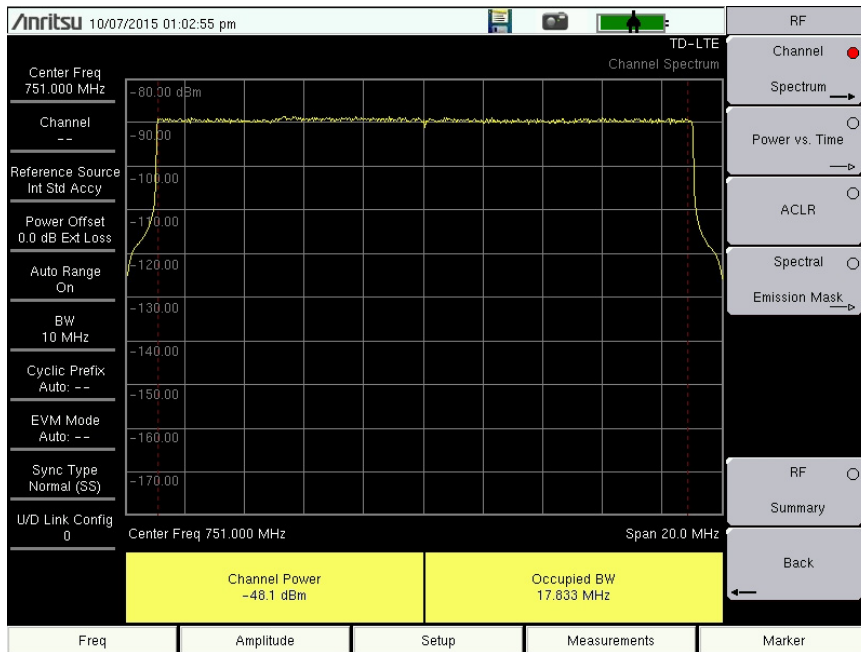

Figure 6-2. Channel Spectrum
3. Press the Channel Spectrum submenu key to activate this RF measurement view (Figure 6-2).